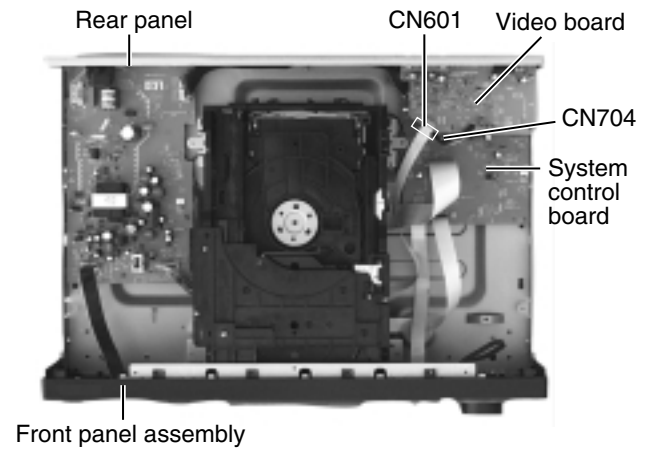

Fig.11
■ Removing the Video board (See Fig.11 and 12)